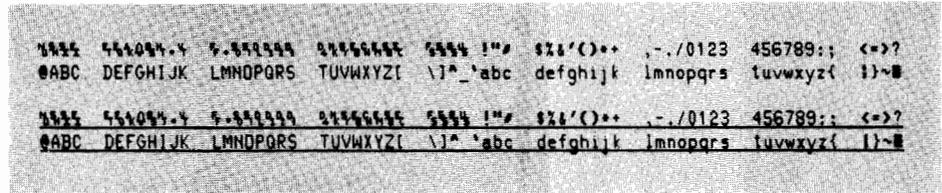

Figure 6-2. 2621P Test Pattern
3. A test pattern (figure 6-2) is printed on paper and an error message may be displayed on the screen. Table 6-1 gives the meaning of the error message and what action to take.